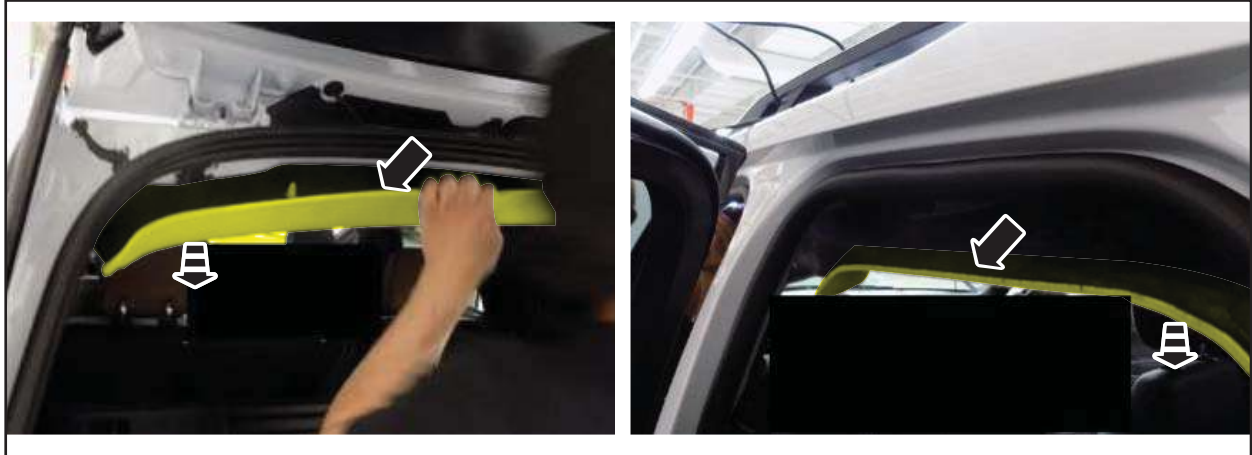

FIGURE 32
32. Release the clips and magnets, then lower the LH side of the headliner. See Figure 32.